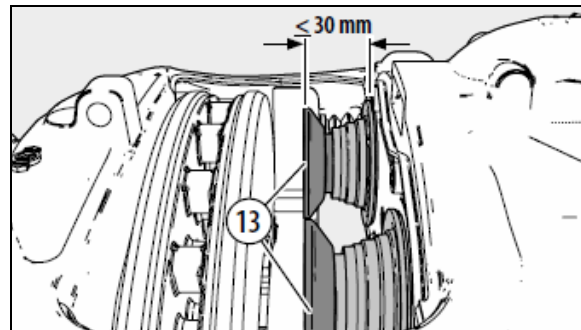

FIGURE 95: SCREW OUT TAPPETS - MAX. 1.181 IN / 30 MM
Screw out the tappets (13) using the shear adapter (61) clockwise until the boots are clearly visible (see Figure 95).